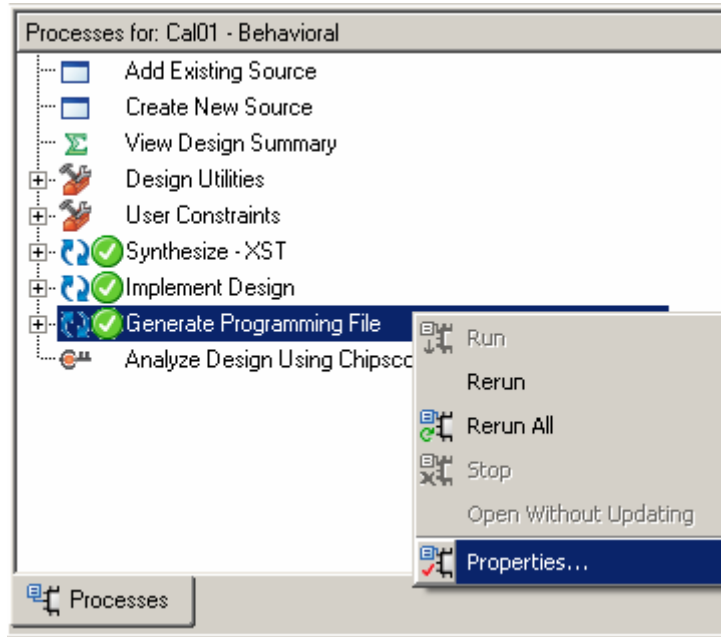

Figure 6-3 ISE Processes window
2. Select [Properties...] (Figure 6-3).